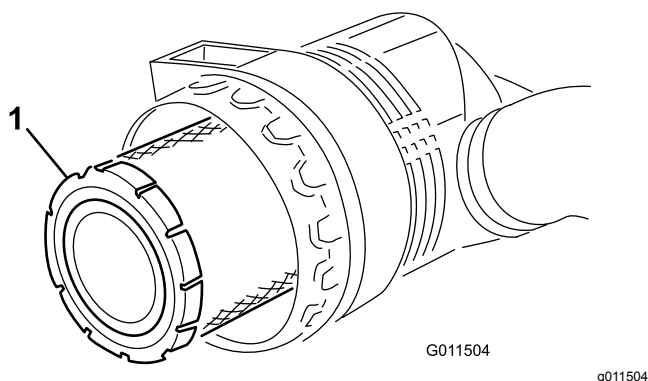

Figure 72
3. Remove the primary filter (Figure 72). Cleaning of the used element is not recommended due to the possibility of damage to the filter media. Inspect the new filter for shipping damage, checking the sealing end of the filter and the
4. Replace the primary filter (Figure 72).